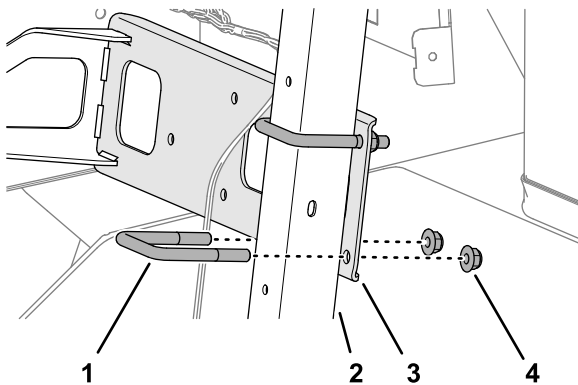

Figure 30
4. Loosely assemble the manifold mount to the dash support tube (Figure 30) with 2 U-bolts (3/8 inch) and 4 flange locknuts (3/8 inch).